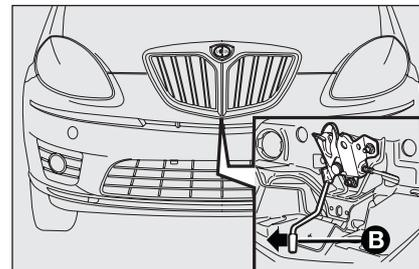

fig. 108
- move lever **B**-**fig. 108** in the direction of the arrow;